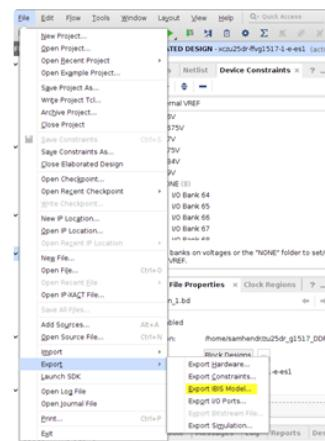

Figure 31: Export PS IBIS Model
- When the Elaborated Design is open, Select File à Export à Export IBIS Model (Figure 31).